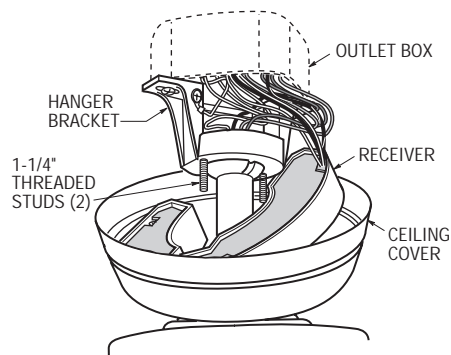

Figure 16
28. Insert the connected ends of the wires up through the open side of the hanger bracket and into the outlet box as shown in Figure 16.
29. Screw two 1-1/4" threaded studs (supplied with the ceiling fan) into the tapped holes in the hanger bracket (Figure 16).